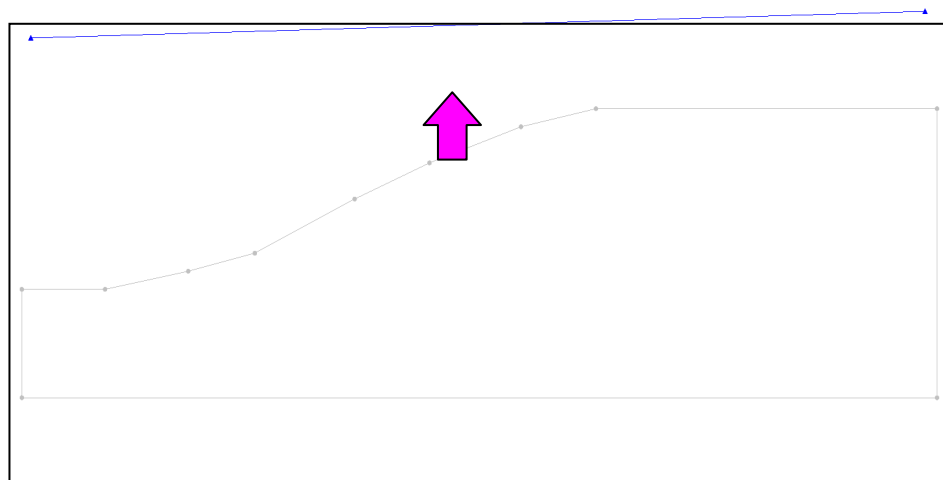

Figure 2. The initial piezometric line.
3. Create a new arc above the model, as shown in *Figure 2* below. Don't worry about the exact location of the arc as we'll reposition it in the next steps.